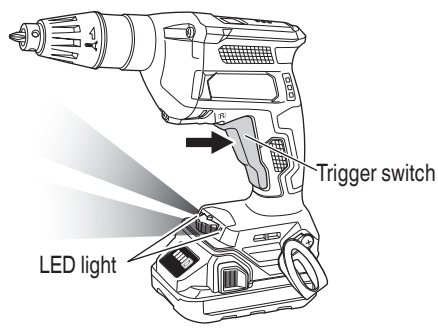

Fig. 11
- How to use the LED light (Fig. 11)